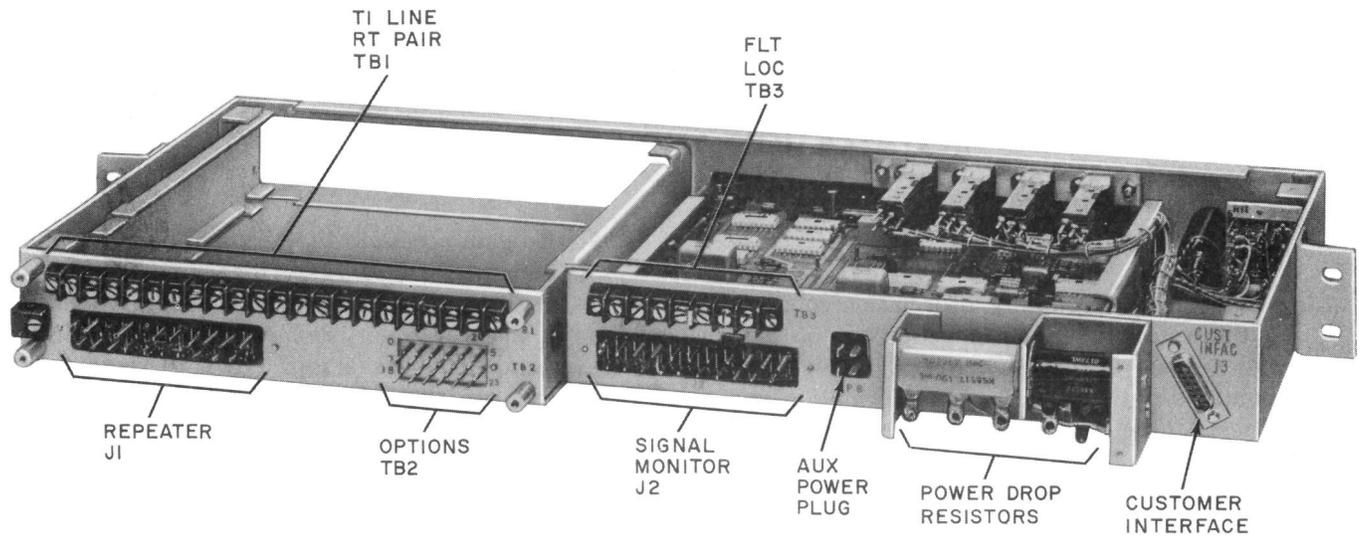

Fig. 2—551A CSU—Rear View With Covers Removed
2.02 The S option is provided in manufacture and should be installed when the 598 fault location filter is not used. When the 598 fault location filter is used, the S option should be removed and the R option installed. Refer to Fig. 2 and Table A.
4.01 The 551A CSU connection to the T1 lines, order wire, and remote test pair (when provided) is made by screw connection to TB1 (Fig. 2 and 4). Connection to the fault location pair is made by screw connection to TB3. It will be necessary to remove the rear cover to gain access to TB1 and TB3.